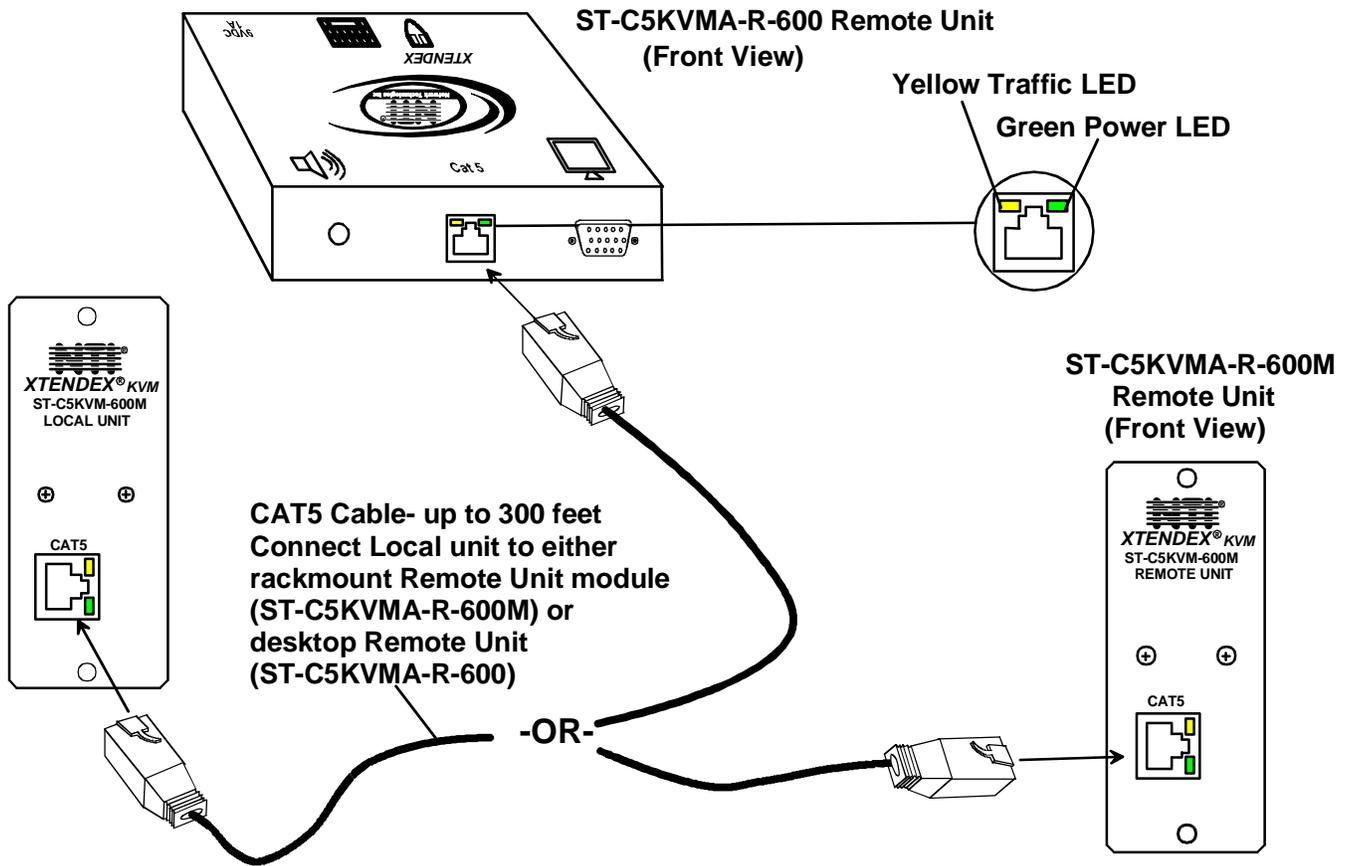

Figure 21- Connect the CATx cable between the Local and Remote Units
Connect the CATx cable to the “CAT5” port on the front of the Local Unit (see Figure 21). When properly inserted the cable end should snap into place. Connect the other end of the cable to the “CAT5” port on the Remote Unit.
4. Turn ON the CPU and monitor(s). The CPU and monitor(s) should each react as if they were directly connected to each other. The yellow "Traffic" LEDs on the Remote and Local Units (see Figure 21) should blink indicating there is proper communication between them.